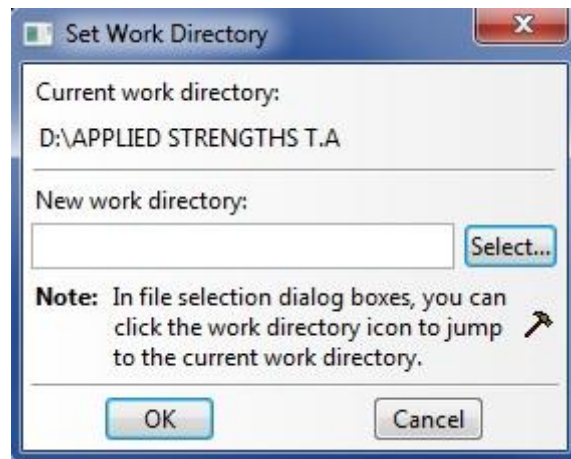

Figure 32. Set Work Directory (FOLDERS)
- The **Set Work Directory** screen will immediately appear (Figure 32). Click **Select...** and use standard Windows practice to select (and possibly create) a subdirectory.